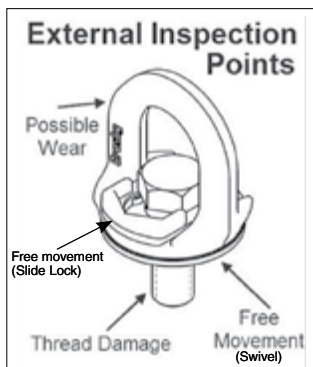

Figure 3
- Regularly inspect Lifting Point parts (Figure 3).
- Always ensure free movement of bail. The bail should swivel 360 degrees (Figure 3).